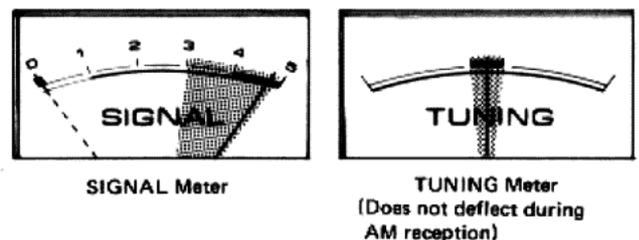

Fig. 7
3. Rotate TUNING knob to select station. Tune for maximum deflection of the SIGNAL meter toward the right, and center indication of the TUNING meter. See Fig. 7.